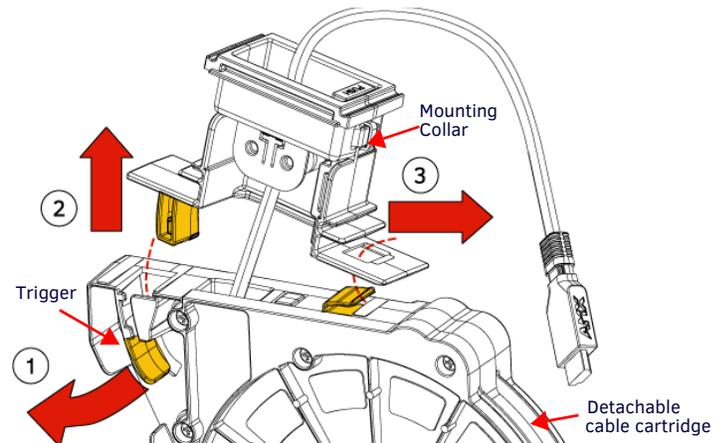

FIG. 4 HPX-AV102-HDMI-R MOUNTING COLLAR REMOVAL
6. Pull the cable cartridge trigger (FIG. 4) to release the mounting collar tongue.
- Push the cable cartridge trigger up onto the mounting collar tongue until it latches (opposite of FIG. 4).